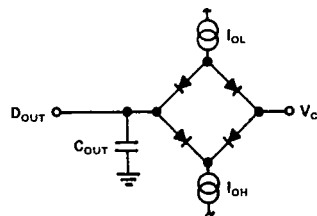

Figure 3. Load Circuit for Bus Timing Specifications
- 4Measured from the falling edge of  $\overline{OE}/\overline{EOCEN}$  (0.8 V) to the time at which the data lines/EOC cross 2.0 V or 0.8 V. See Figure 3;  $C_{OUT} = 100$  pF.
- 5Measured from the rising edge of  $\overline{OE}/\overline{EOCEN}$  (2.0 V) to the time at which the output voltage changes by 0.5 V. See Figure 3;  $C_{OUT} = 10$  pF.